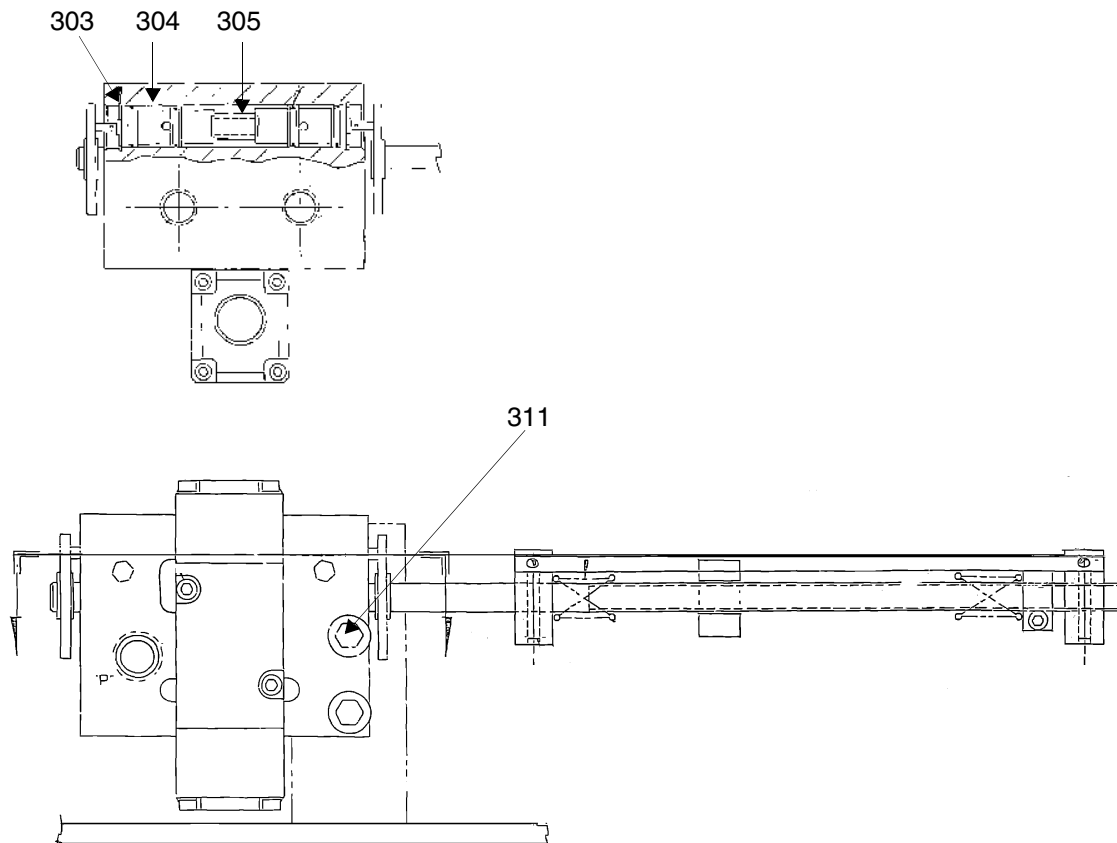

FIG. 33
1. Unscrew 2 socket head cap screws (311), FIG. 33.
4. Remove retaining ring off appropriate air valve (303), pull out valve (304) and replace with new valve.
5. Reassemble in reverse order of disassembly. Make sure not to remove spacer (305) during disassembly. This spacer sets correct alignment of valves.